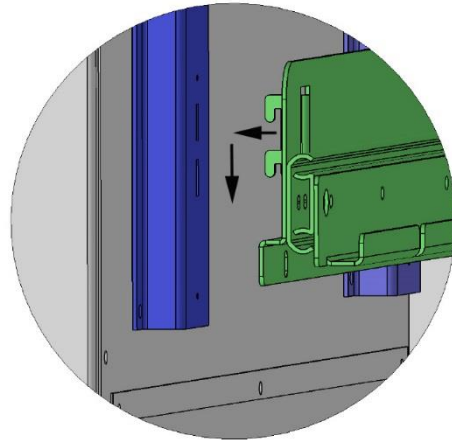

Figure 7: Sliding Shelf Mounting Bracket Installation
2. Slide the bracket down so that the tabs are securely seated in the mounting slots. See Figure 7.